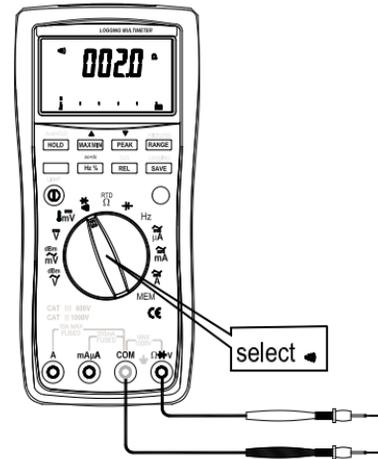

Figure 3-8 Continuity Test
**Testing for Continuity (See Figure 3-8)**